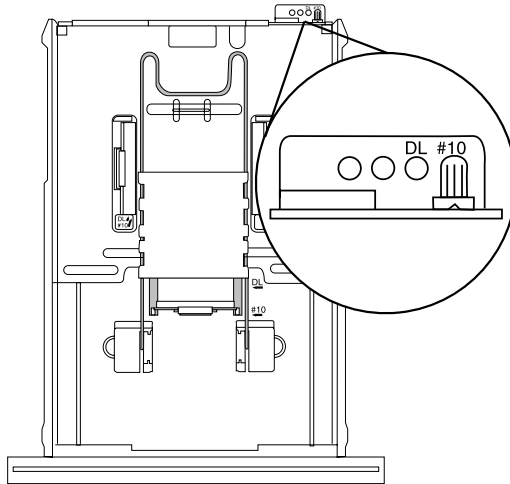

Fig. 8.7. Set the size key
3. Set the envelope-size key to the correct envelope size (fig. 8.7)